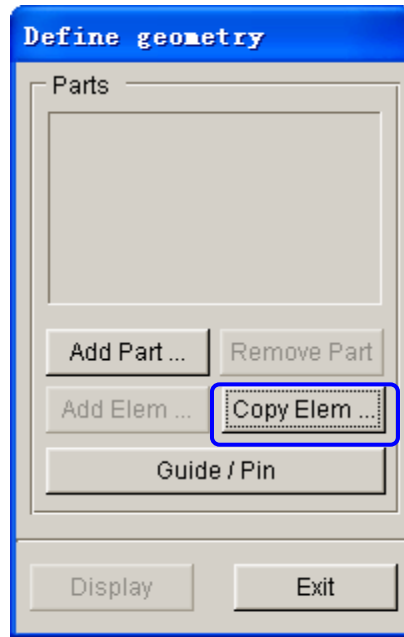

Figure 1.19 Define Geometry dialog box
- Click **Parts...** button to display the DEFINE GEOMETRY dialog box illustrated in Figure 1.19.